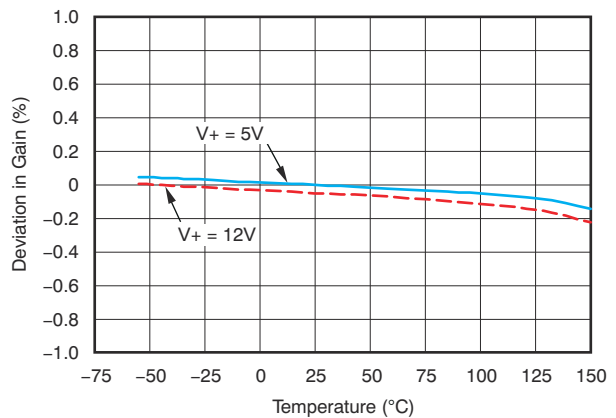

Figure 6-12. Deviation in Gain vs Temperature
(6) See typical characteristic graph Figure 6-12.